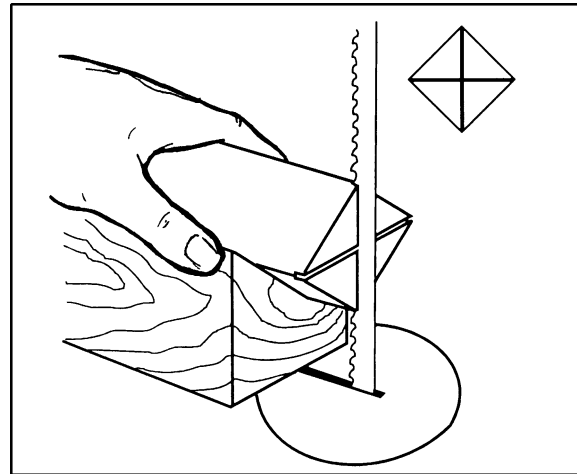

Figure 30
2. Extremely hard woods may require kerfs cut into the ends of the stock (Figure 30) using a band saw, so the wood will accept the spur center and the live center.